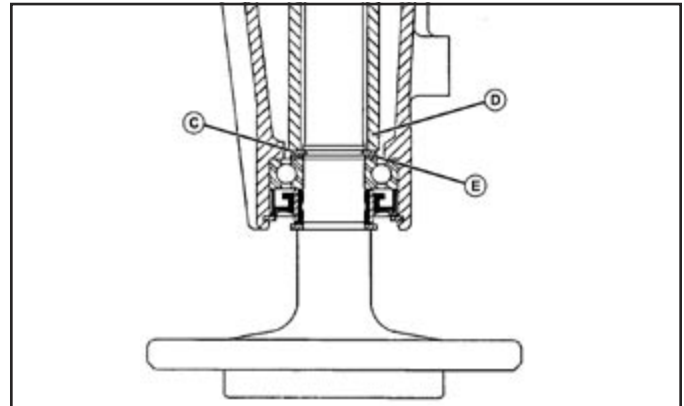

Fig. 77, Rear Axle Cut-away
10. Install washer (E) and snap ring (C) on axle shaft. (Fig. 77)
11. Use a piece of pipe (D) with a minimum inside diameter of 31 mm (1-3/16 in.), maximum outer diameter of 43 mm (1-11/16 in.) and approximately 330 mm (13 in.) long to install snap ring.